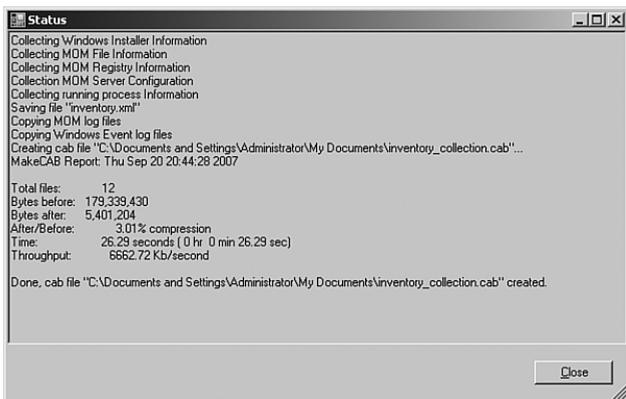

FIGURE 12.25 The MOMInventory tool status window.
4. While the tool is running, a status window is open, showing information about the data that is collected. When the tool is finished, the status window provides the name and location of the .cab file (see Figure 12.25).